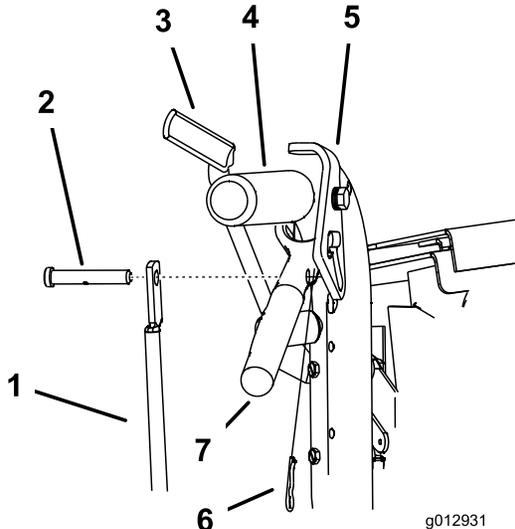

Figure 49
1. Remove the hairpin cotter pins and clevis pins from the drive levers and neutral locks (Figure 49).